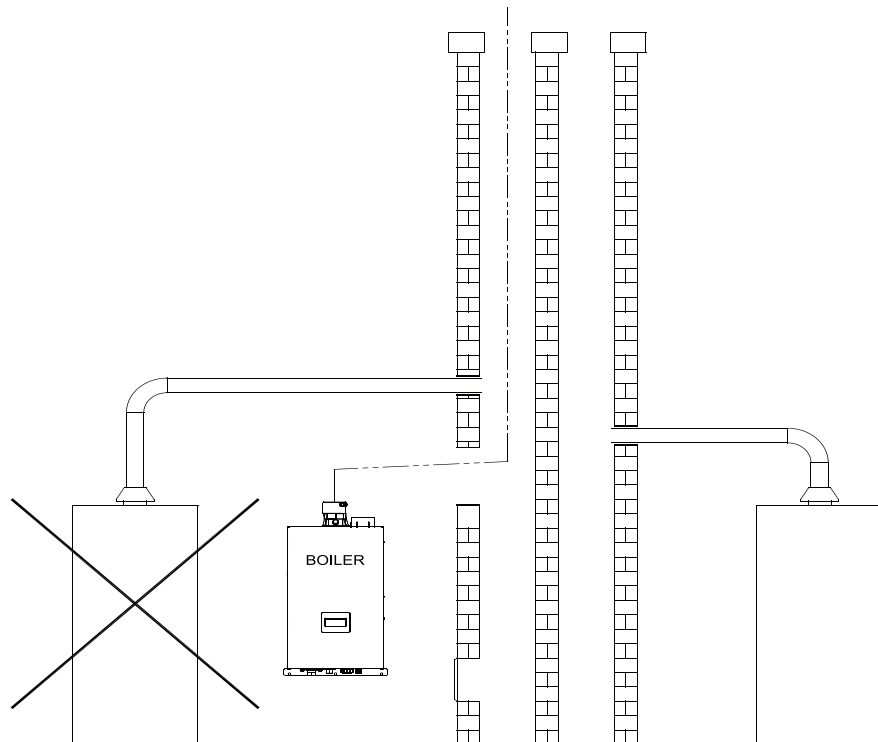

**Figure 7.24b: Flexible PP Masonry Chimney Chase Requirements**
- All flex pipe must be installed vertically. Up to two offsets (four bends) may be made in the vertical run of flex pipe. Bends used to make these offsets may not exceed 45 degrees (Figure 7.24b).